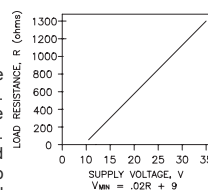

Figure 3
1. To maximize wire rope life, align transducer with moving element so that wire rope exits perpendicular to axis of wire rope exit hole within 2° (see Figure 3).